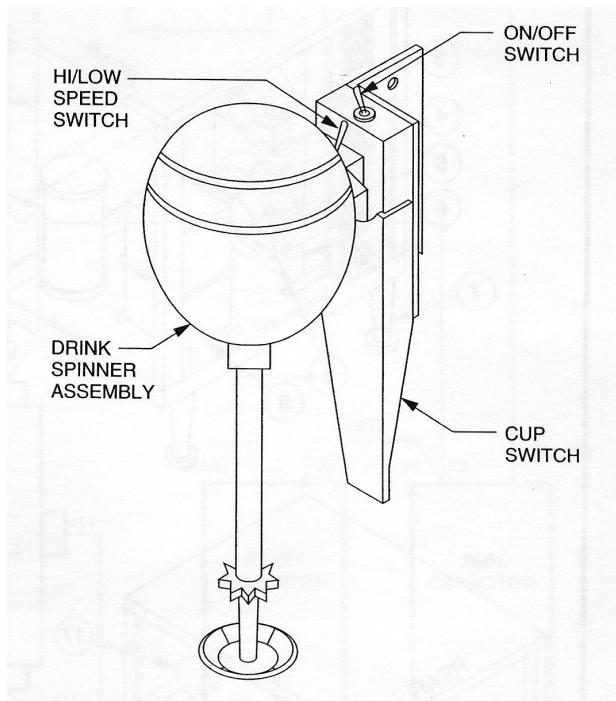

Fig. 35
2. With High/Low Speed Switch in the "LOW" position (Fig. 35), set the On/Off switch to "ON"